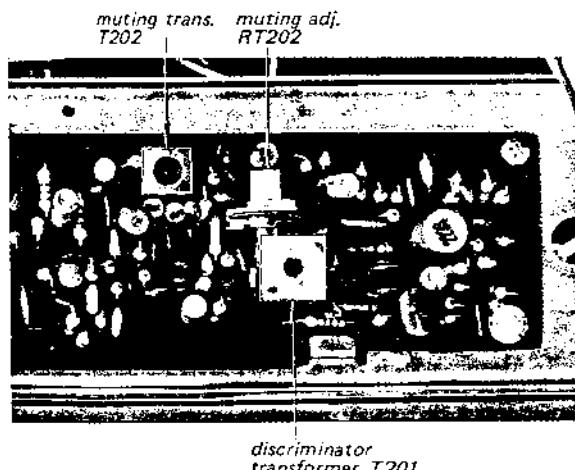

Fig. 3-4. Adjustment parts location
3. Turn the top core (secondary side) of discriminator transformer T201 (see Fig. 3-4) with a hex-head alignment tool to obtain a null-point reading on the tuning meter. If the discriminator transformer (T201) is not aligned correctly, some deviation on the tuning meter will be observed.
1. Turn the knob of RT202 (see Fig. 3-4) fully clockwise on the fm i-f amplifier board.